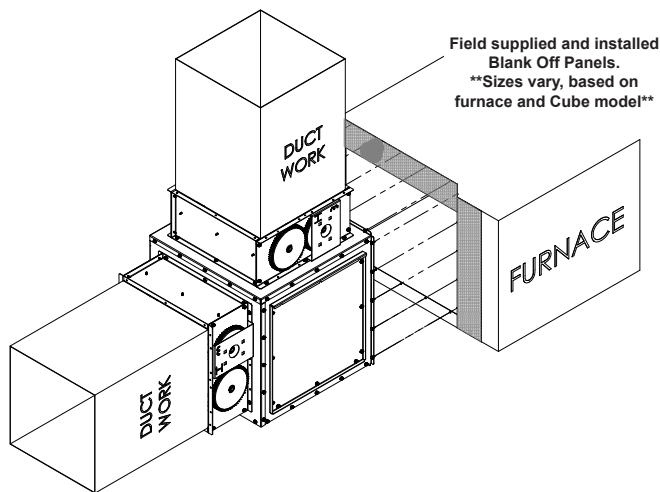

Fig. 1 - Horizontal Application
5. Mount mixing box to return air section of the unit using several 1/2" sheet metal screws (Fig. 1).